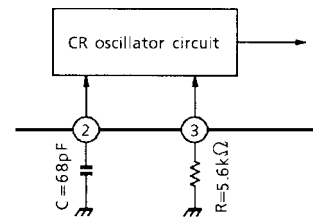

Figure 1
The TC9455F/N and TC9488F/N generate an internal system clock using the CR oscillator circuit. Connecting a capacitance (C) of 68 pF and a resistance (R) of 5.6 kΩ sets the oscillator frequency to approx. 4 MHz and the sampling frequency to 32 kHz. Varying the external capacitance enables the oscillator frequency and sampling frequency for the system clock to be adjusted. Varying the system clock enables the delay time to be adjusted. Figure 1 shows the CR oscillator circuit.